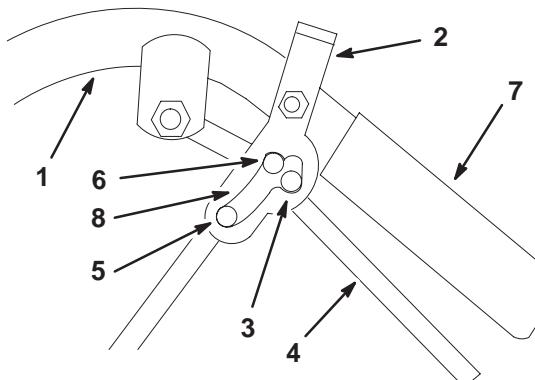

Figure 13
1. Squeeze the drive levers back to neutral position (Fig. 13).
2. Place thumbs on the upper part of the neutral locks and rotate them back (Fig. 13).
1. Squeeze the drive levers back to the grip slightly (Fig. 13).
- Place thumbs on the upper part of the neutral locks and rotate them forward until in forward slot (Fig. 13).